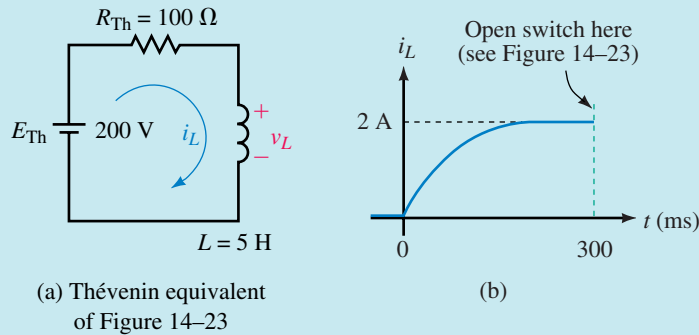

FIGURE 14-25 Circuit and current during the buildup phase.
The Thévenin equivalent circuit is shown in Figure 14-25(a). $\tau = L/R_{Th} = 50 \text{ ms}$. Thus during current buildup,
b. Current build-up is sketched in Figure 14-25(b). Since $5\tau = 250 \text{ ms}$, current is in steady state when the switch is opened at 300 ms. Thus $I_0 =$